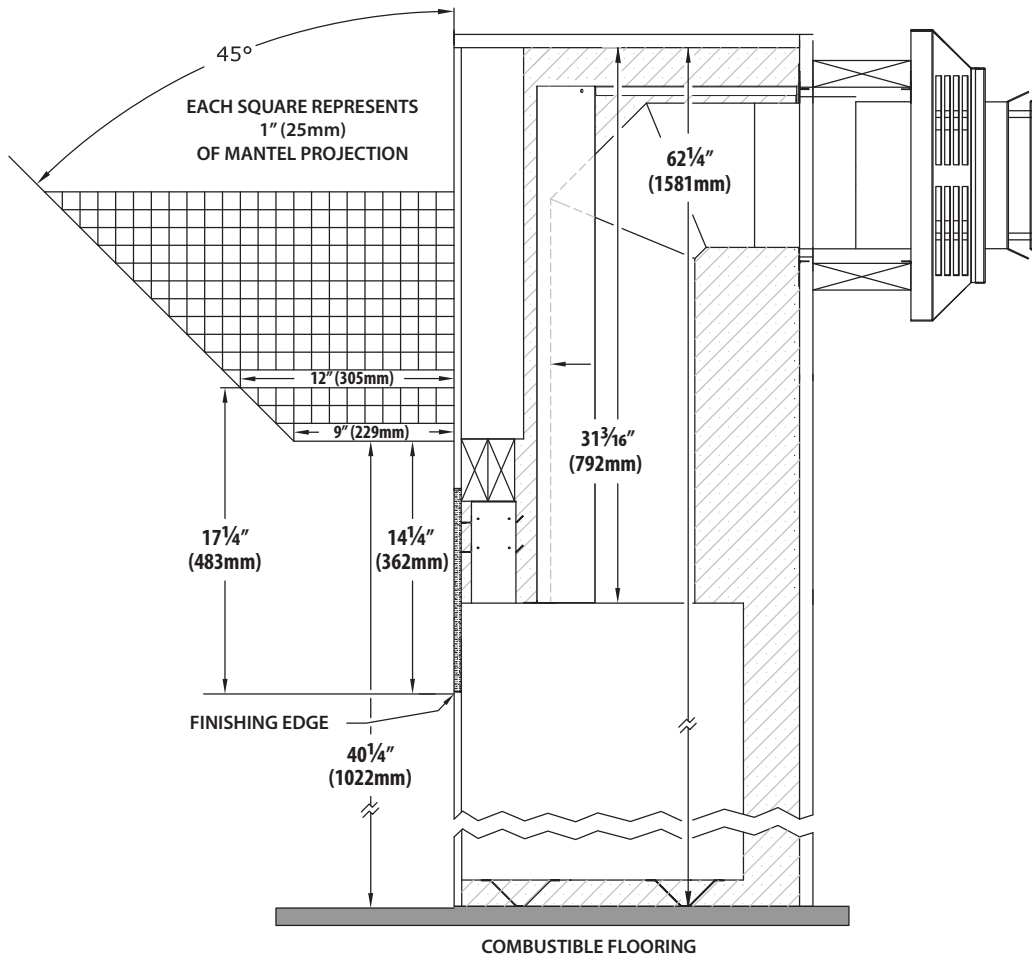

Figure 5.1, Mantel Requirements
- Combustible Mantel Projections - As referenced in Figure 5.1 (page 20), the 9" (229mm) mantel can start at 14-1/4" (362mm) above the finishing edge. Mantel projections can increase 1" (25mm) of depth for every 1" (25mm) of height starting at the 9" (229mm) mantel.